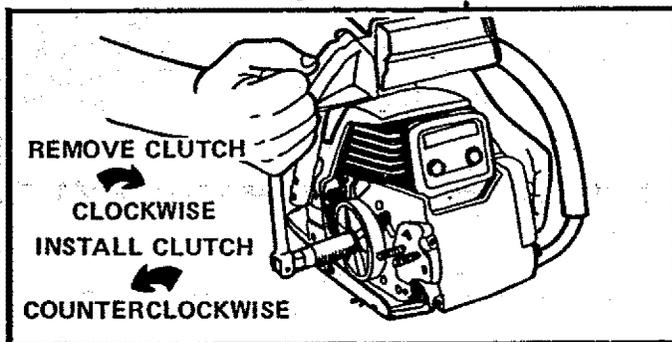

Figure 53
5. Remove the clutch with a 3/4" socket or end wrench in a clockwise direction. Figure 53.
7. Install clutch in a counterclockwise direction. Figure 53.